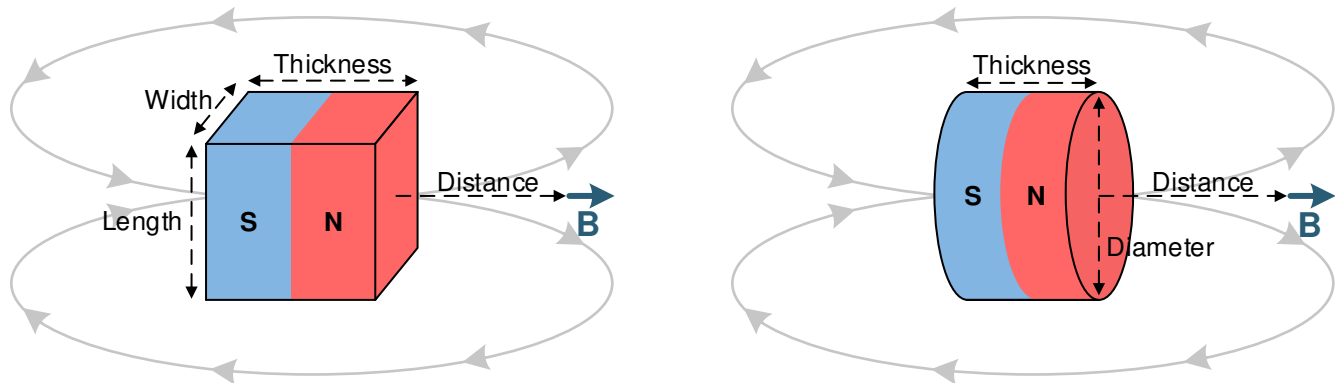

Figure 34. Rectangular Block and Cylinder Magnets
Magnets are made from various ferromagnetic materials that have tradeoffs in cost, drift with temperature, absolute maximum temperature ratings, remanence or residual induction (B_r), and coercivity (H_c). The B_r and the dimensions of a magnet determine the magnetic flux density (B) produced in 3-dimensional space. For simple magnet shapes, such as rectangular blocks and cylinders, there are simple equations that solve B at a given distance centered with the magnet. Figure 34 shows diagrams for Equation 4 and Equation 5.
Use Equation 4 for the rectangular block shown in Figure 34:
Use Equation 5 for the cylinder shown in Figure 34: